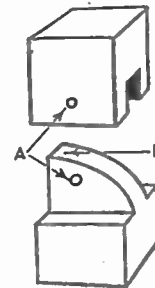

Fig. 2—How the knee joint is constructed
shown. If this is done correctly the padded thigh should hang vertically, below, but from the front edge of the lower body. The thigh should be approximately $\frac{1}{4}$ in. diameter, so as to accommodate the upper part of the knee joint which is made from a piece of $\frac{1}{4}$ in. dowel, $\frac{1}{2}$ in. long. This is glued into the sleeve, or it may be secured by drawing pins, after a small mortise $\frac{1}{4}$ in. deep is cut into it (see Fig. 2).
The knee joint is, perhaps, the most critical part of the model. A form of lock must be incorporated so that the knee can bend in only one direction. Fig. 2 shows how this is attained. When the rounded tenon is inserted into the mortise of the upper leg and secured by a small split-pin through the hole (a), the straight shoulder (b) will prevent the knee from bending in one direction. The joint should move freely, so do not make a push-fit.
1/4 in. ring over the dial, and the third ring over that, thus leaving a rebated recess for the glass to lie in. Keep all in place with the second ring, screwed to the rest, as in detail Fig. 2 (A). The latter ring might have its inner edge neatly bevelled.